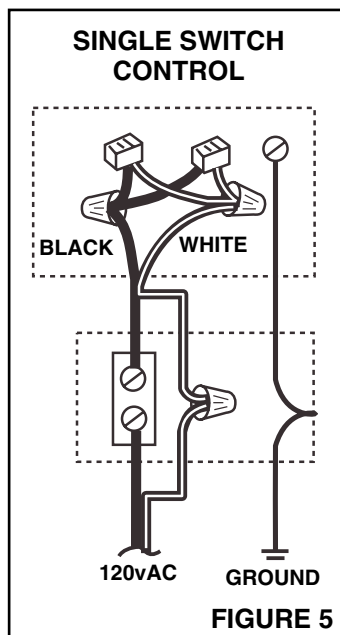
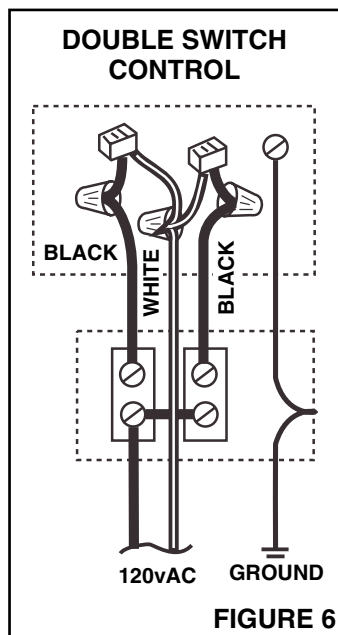

FIGURE 5
FIGURE 6
Refer to Figures 5 and 6.
4. If a single switch will be used to control both the fan and the light, make wiring connections as shown in Figure 5. If a double switch will be used for separate control of the fan and light, make connections as shown in Figure 6.
WIRING AND DUCTING: Refer to Figures 5 and 6 for wiring and to Figure 4 for ducting. Plan ducting and wiring before proceeding with installation.